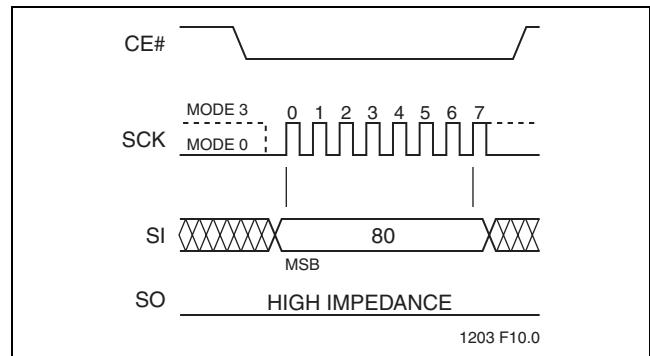

FIGURE 11: Disable SO as Hardware RY/BY# during AAI Programming
The 8-bit command, 80H, disables the Serial Output (SO) pin to output busy status during AAI-Word-program operation, and re-configures SO as an output pin. In this state, the SO pin will function as a normal Serial Output pin. At this time, the RDSR command can poll the status of the Software Status Register. This is shown in Figure 11.